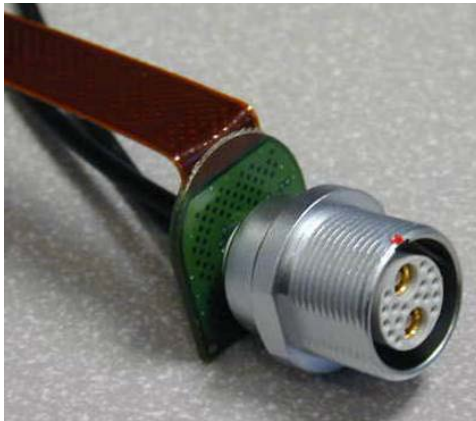

Figure 5-20 Creating a sharp bend
- Create a sharp bend (Figure 5-20): The flex circuit must be bent at a right-angle where it meets the printed circuit board. It can only be bent after heat has been applied to it (i.e. using a hot-air gun, or a similar device)